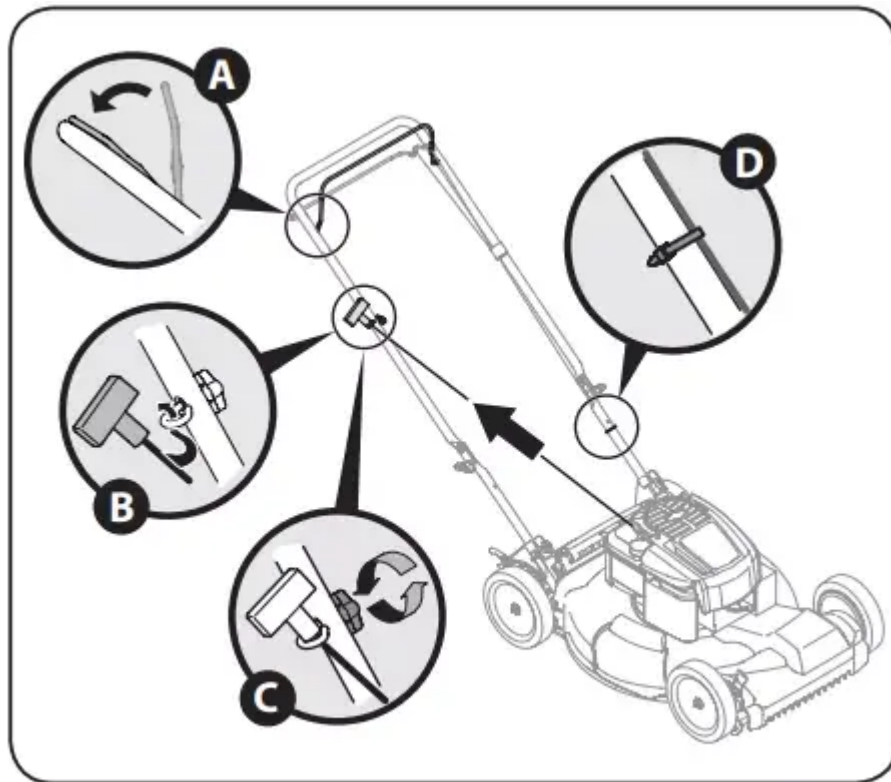

Figure 3-6
4. The rope guide is attached to the right side of the upper handle. Loosen the wing knob which secures the rope guide. See Fig. 3-6.
2. Slowly pull starter rope handle from engine and slip starter rope into the rope guide. See Fig. 3-6.